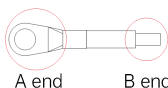

Fig. 5 Grounding terminal connection
- (5) Grounding: MV810-PNET02 must be grounded during wiring as shown in Fig. 5. You need to prepare and crimp the cable by yourself.